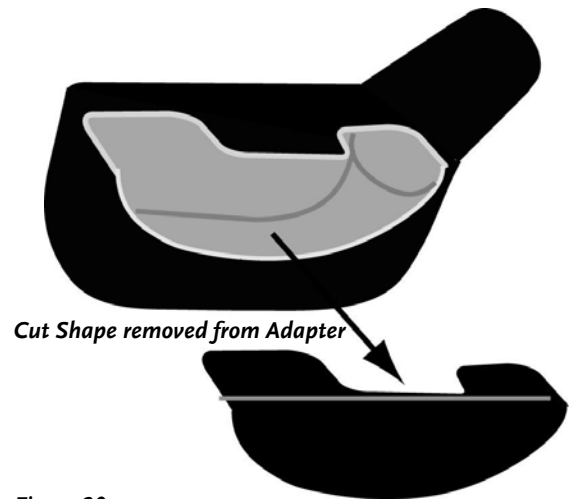

Figure 30
- b) Insert the Blade of the Jig Saw and carefully cut along the contours until the piece is free from the Universal Deck Adapter (**Figure 30**). Clean the burrs from the cut line.